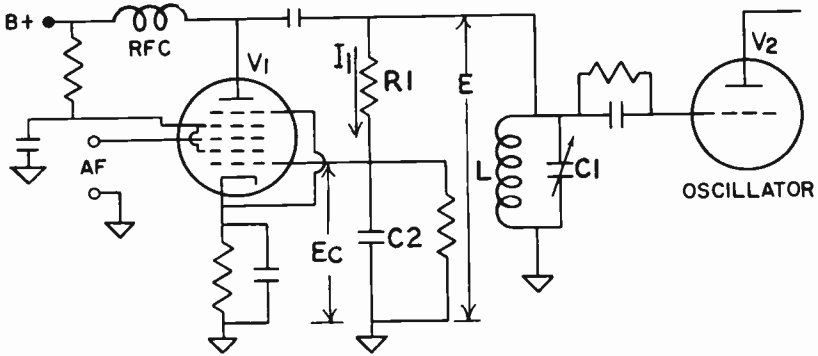
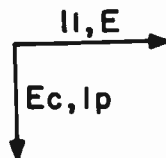

FIG. 16-5. A REACTANCE TUBE MODULATOR.
FIG. 16-6. VECTOR ANALYSIS OF PRODUCING FM.
**REACTANCE TUBE MODULATOR.** The reactance tube modulator of Fig. 16-5 is a satisfactory method of producing FM. V2 is the oscillator. L and C1 are the inductance and capacitance of the tuned circuit of the oscillator. V1 is the reactance tube.
The reactance tube modulator operates in the following manner: The resistance of R1 is very high, compared to the capacitive reactance of C2. The circuit R1C2 is therefore a resistive circuit. The current, I1, that flows through R1C2, is practically in phase with the voltage E, which is across R1C2. This is so because current and voltage tend to be in phase in a resistive circuit. However, Ec, which is the voltage across C2, is out of phase with I1. In fact, Ec lags behind I1 by 90° because the voltage across a capacitor lags behind its current by 90°. This is shown vectorially in Fig. 16-6.
By looking at Fig. 16-5, we note that Ec also happens to be the grid voltage of V1. Since the plate current variations of a tube are the direct result of the grid voltage variations, we can say that the plate current Ip is in phase with the grid voltage Ec. This is also noted in Fig. 16-6 by drawing Ip alongside of Ec. We can put E on the same line as I1, since we previously proved that I1 and E were practically in phase. By looking at the vectorial diagram, we note that Ip, the plate current of V1, is 90° behind E, the plate voltage of V1. Thus, we have a circuit in which the plate current lags behind the plate voltage by 90°. In our discussion of inductances, we learned that